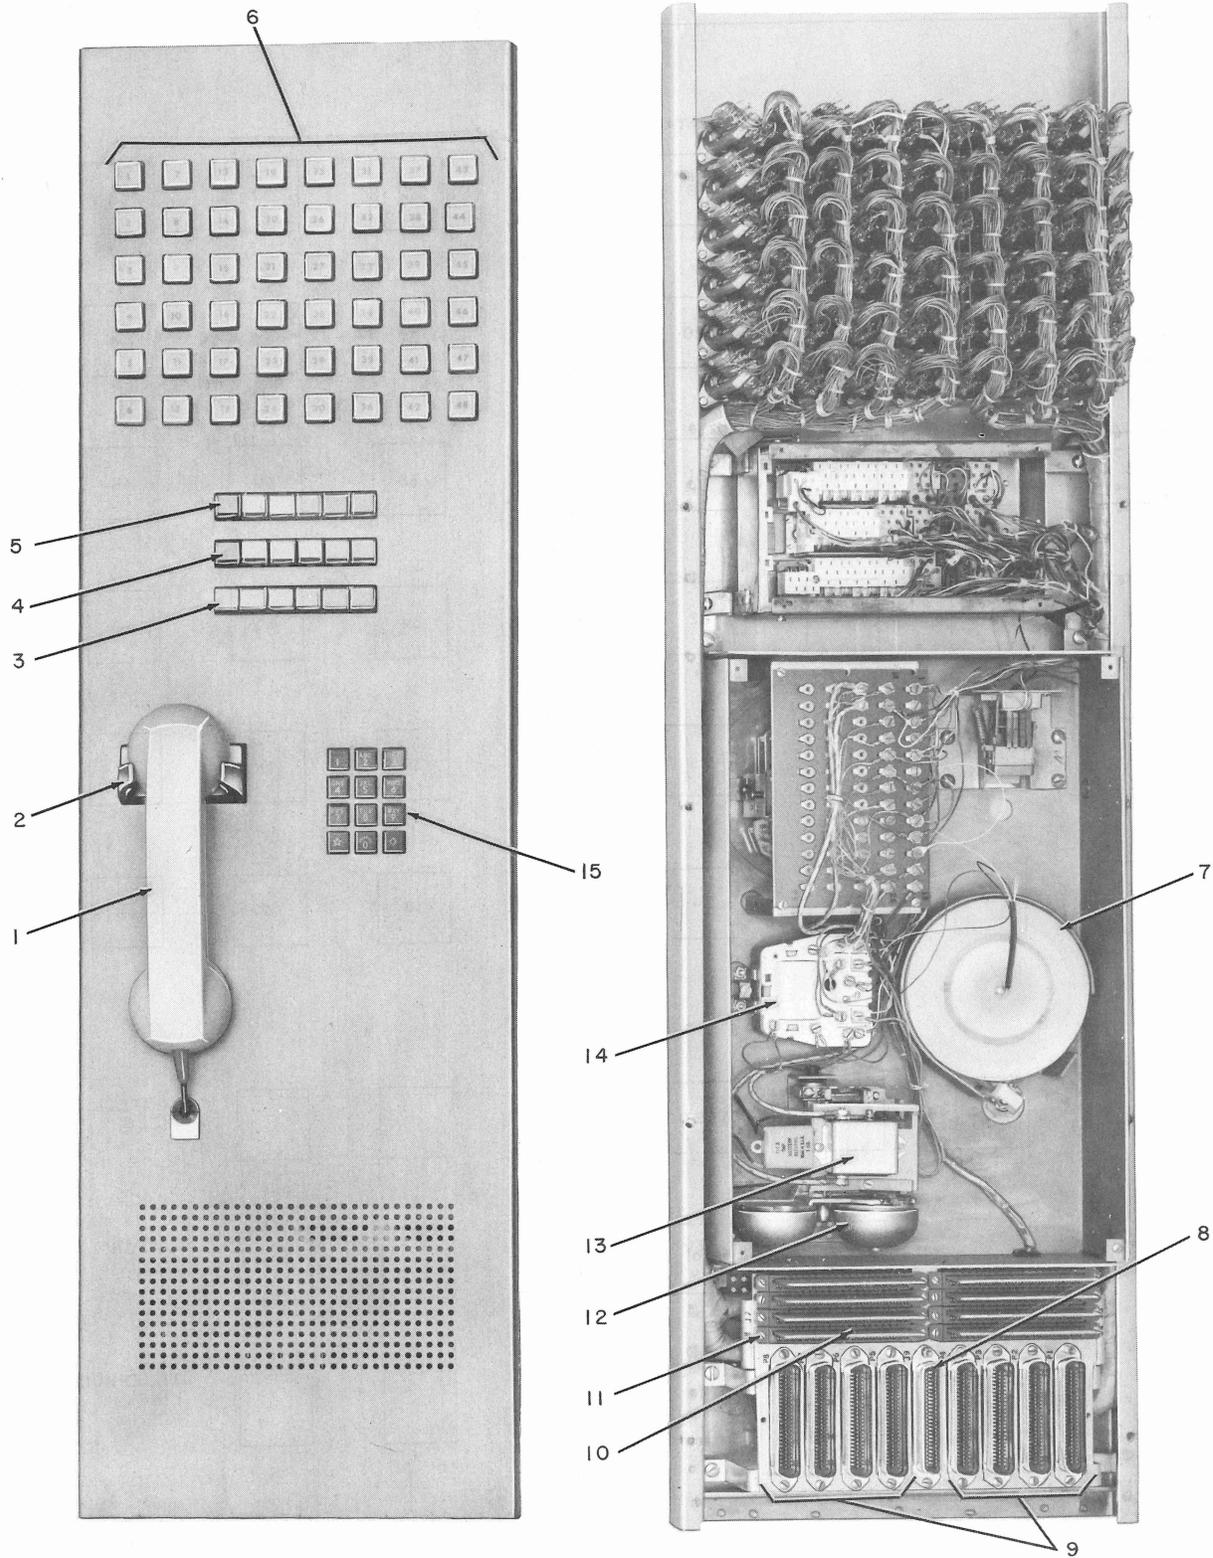

Fig. 2—Data Auxiliary Set 804L-Type, Front and Rear Views Showing Component Placement
2.03 The 48 nonlocking keys grouped together, shown by Fig. 2, are referred to as the data set field of keys. The designations of these keys are given by Fig. 3.
2.04 The three 6-button keys make up the action key field, the control key field, and the telephone line key field. These key fields are shown by Fig. 2 and the key designations are given by Fig. 3.
2.05 The keys on the 804L will be referred to in this section by their field grouping and key designation. Refer to Fig. 2 and the following text for the designation of these key fields.